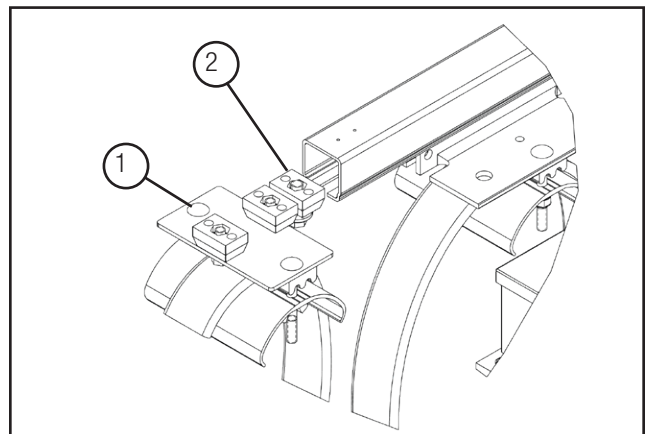

Figure 9-3 1. End Clamp
1. Install and tighten the end clamp and end stop(s) firmly in place. Torque fasteners for 11 ft.-lbs. See **Figure 9-3**.